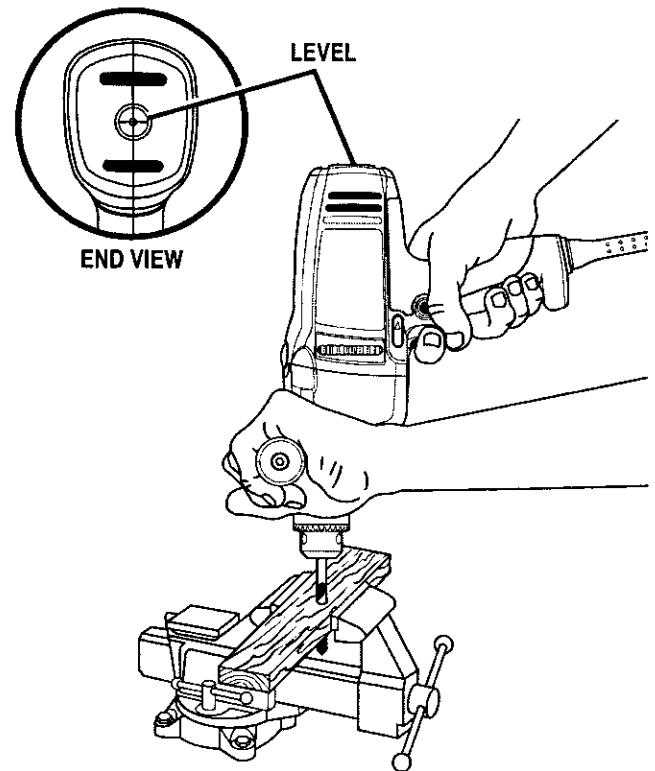

Fig. 11
See Figure 11.
- Move the drill bit into the workpiece applying only enough pressure to keep the bit cutting. Do not force your drill or apply side pressure to elongate a hole. Let your drill and bit do the work. See Figure 11.